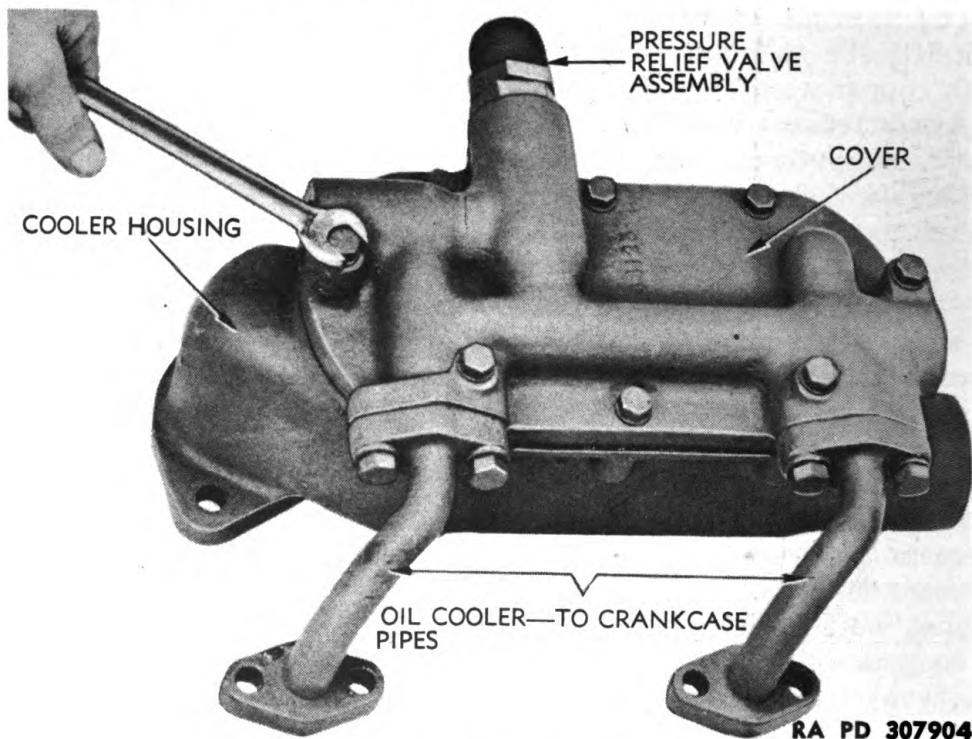
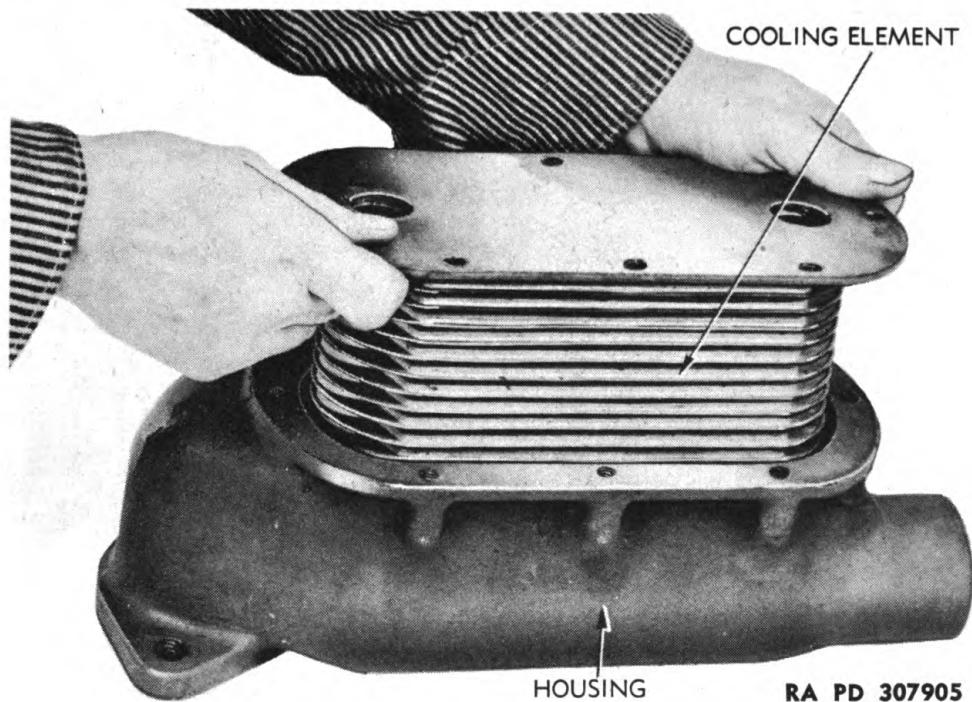

Figure 97 — Oil Cooler Cover Removal
Figure 98 – Lifting Element From Oil Cooler Housing
b. **Disassembly of Cooler.** Remove oil cooler to crankcase pipes by removing two cap screws and lock washers that attach each pipe to cover of cooler. Remove the eight cap screws and lock washers that attach cover to housing (fig. 97) and remove cover from housing. Lift element from housing (fig. 98). Remove large acorn nut and gasket from pressure relief adjustment screw, loosen lock nut, and unscrew pressure relief adjustment screw from cover. Then pull spring and plunger from cover (fig. 99). *NOTE: Do not disassemble the relief valve assembly unless in need of cleaning or repair.*
(2) ASSEMBLE ELEMENT AND HOUSING. Cement new gasket to cooler housing. Coat outer side of gasket with cement and set element in housing (fig. 98). Cement new gasket to outer plate of element, coat outer side of gasket with cement, set cover on element and housing, and attach with eight cap screws with lock washers (fig. 97). Use new gaskets and attach oil cooler to crankcase pipes to cooler cover as shown in figure 97 with two cap screws with lock washers in each.